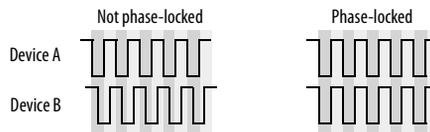

Figure 4-8: When transferring audio, two devices must have phase-locked audio clocks to prevent clicks, pops or other artifacts.
- Synchronizing with other digital audio devices so that their digital audio clocks are *phase-locked* (as shown in Figure 4-8)